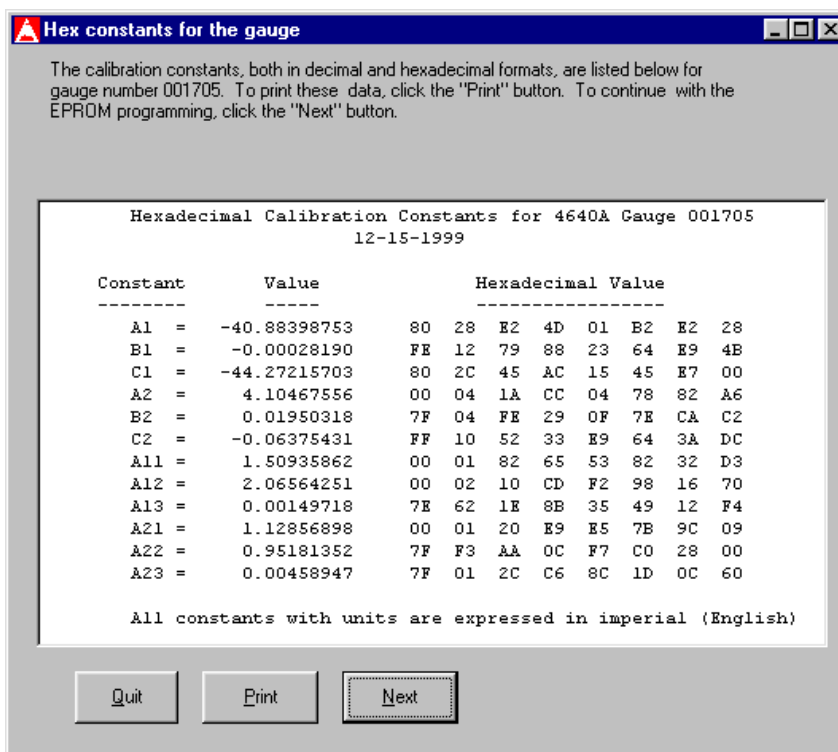

Figure 4-26. Hex Constants for the Gauge Display
4. When the user clicks the **<Convert to Hex>** button, the program performs the conversion, then displays the results as shown in Figure 4-26.